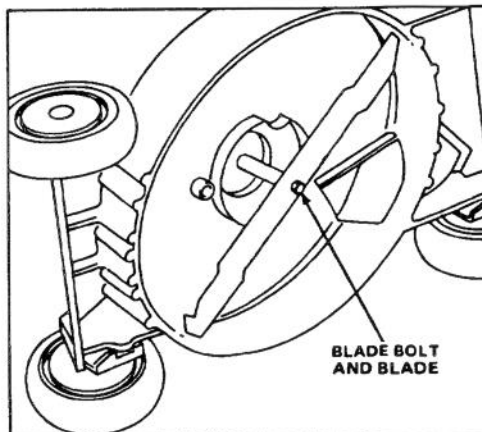

Figure 18
3. Tip mower on its right side (Fig. 18). Avoid rotating blade. Starting problems may result.
5. **REMOVING BLADE** — Grasp end of blade using a rag or thickly padded glove. Remove blade bolt and blade (Fig. 18).